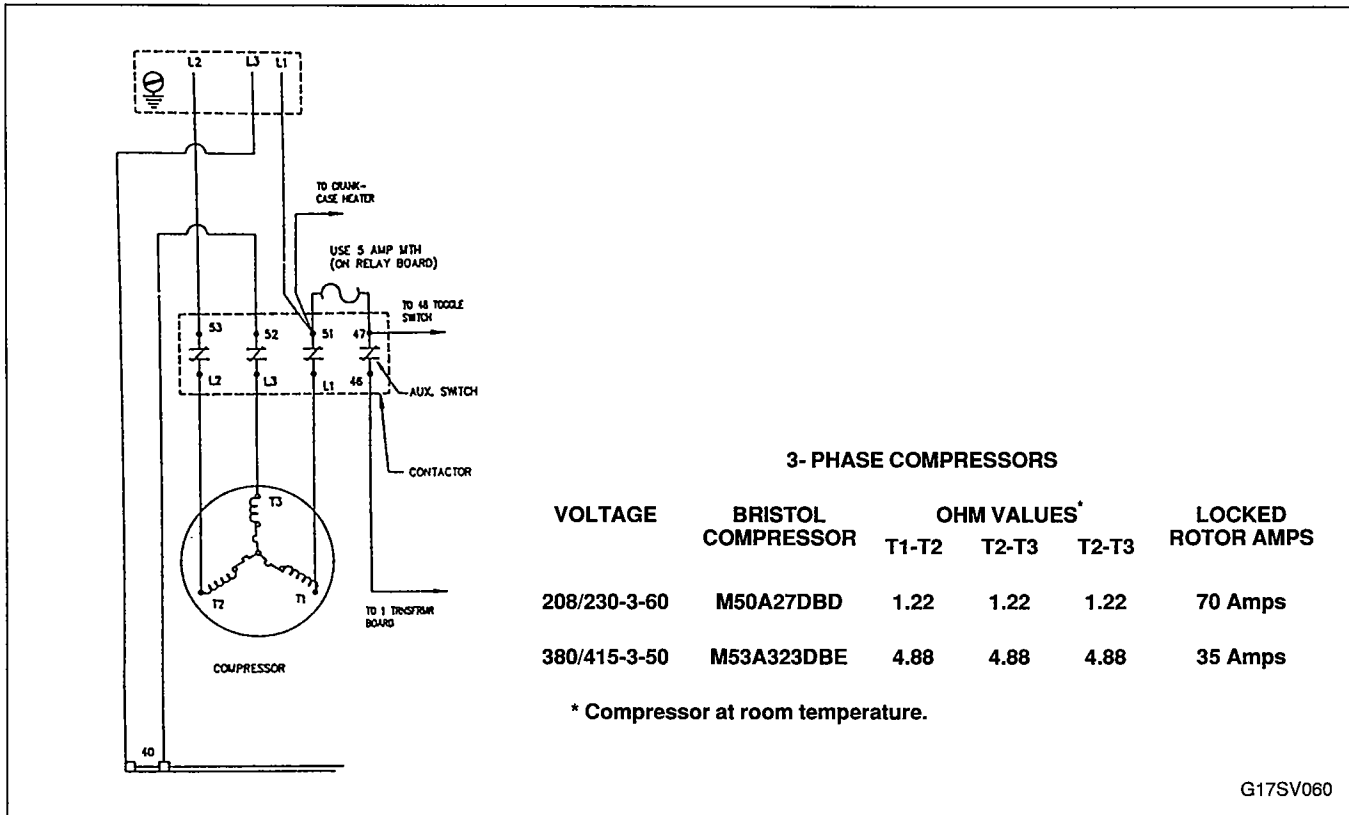

FIGURE 60. THREE PHASE COMPRESSOR AND START COMPONENTS SCHEMATIC
- d. Check winding resistance against values given in Figure 60. The values of all readings should be equal.